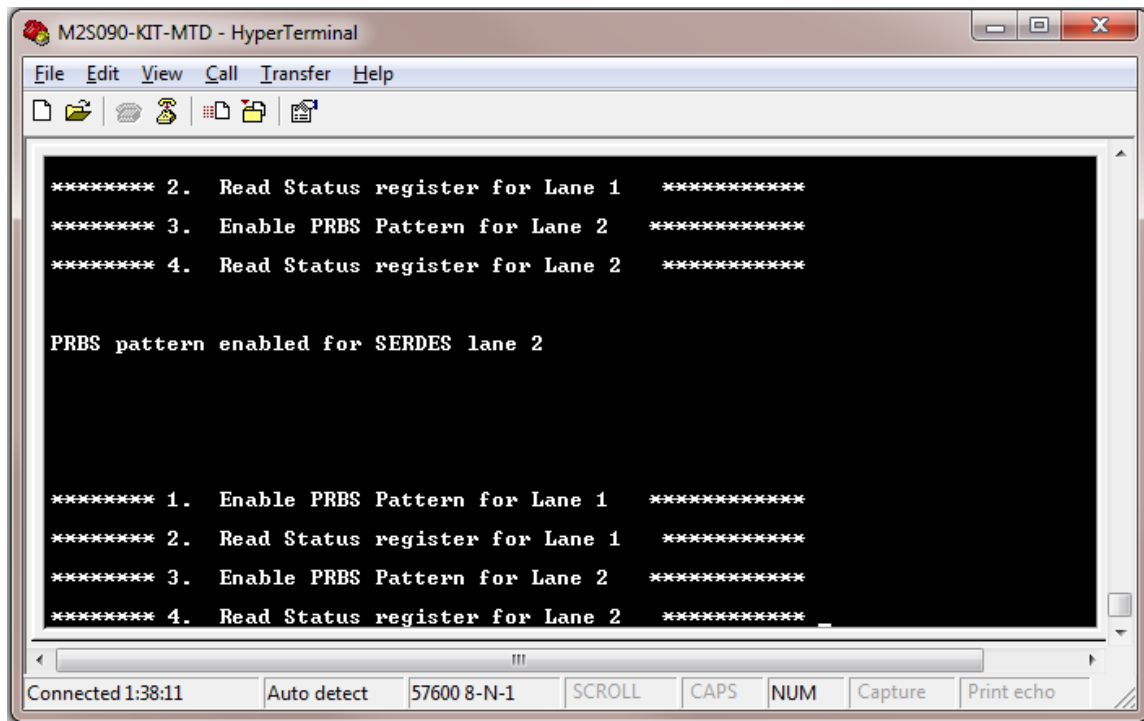

Figure 48 SERDES Lane2 Loopback Test
- 19. Press **3** to enable PRBS pattern for Lane 2. Refer to Figure 48.